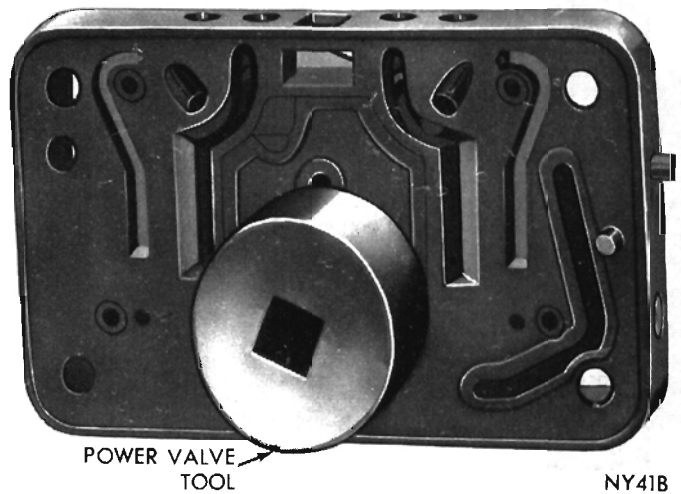

Fig. 7—Removing or Installing Power Valve
(1) Using Tool C-3747, remove power valve assembly from primary metering body (Fig. 7).
(2) Slide a new gasket over power valve and install, using Tool C-3747. Tighten securely (Fig. 7).